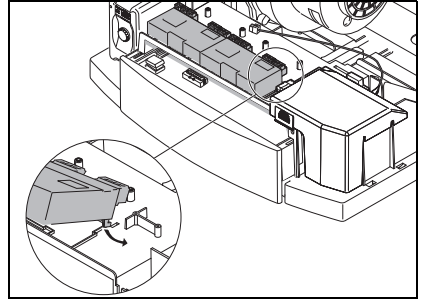

Fig. 4 Click the module in place
- Click the module in place (fig. 4).